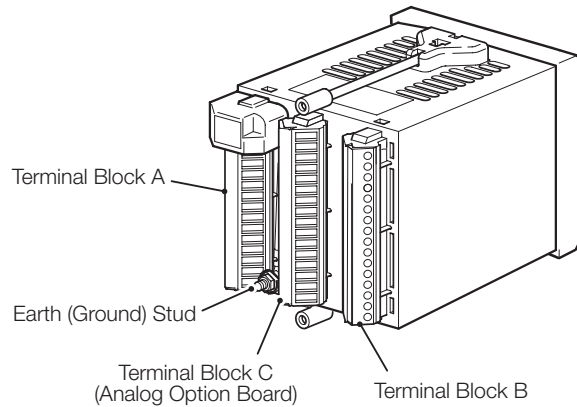

Fig. 6.10 Access to Terminals, Panel-mount Analyzers
- **Earthing (grounding)** – stud terminal(s) is fitted to the analyzer case for bus-bar earth (ground) connection – see Fig. 6.8 (wall-/pipe-mount analyzers) or Fig. 6.10 (panel-mount analyzers).
6.5.1 Access to Terminals – Fig. 6.10